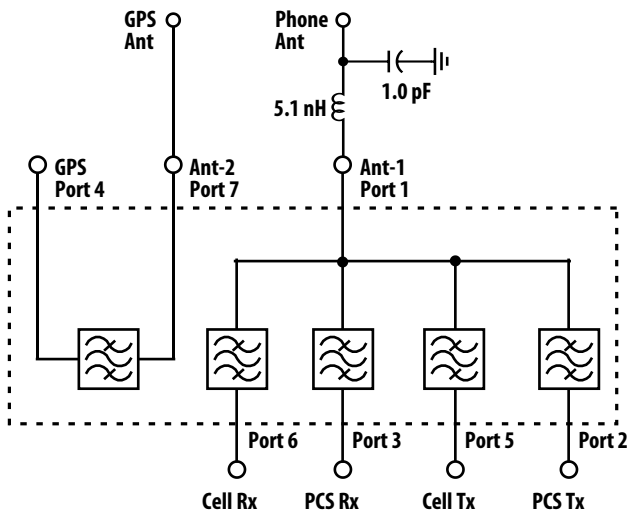

Figure 1. Dual Antenna Application.
4. Unless otherwise noted, specifications are for Dual Antenna connection as shown in Figure 1 and include effect of 5.1 nH inductor and 1.0 pF capacitor added to Port 1 (Ant-1) via simulation.
For applications in which a separate GPS antenna is preferred, the ACFM-7103 can be connected as shown in Figure 1.
1. Dual Antenna connection as shown in Figure 1. Data measured with $Z_0=50\ \Omega$ for all ports; performance shown includes effect of 5.1 nH inductor and 1.0 pF capacitor added to Port 1 (Ant-1) via simulation.